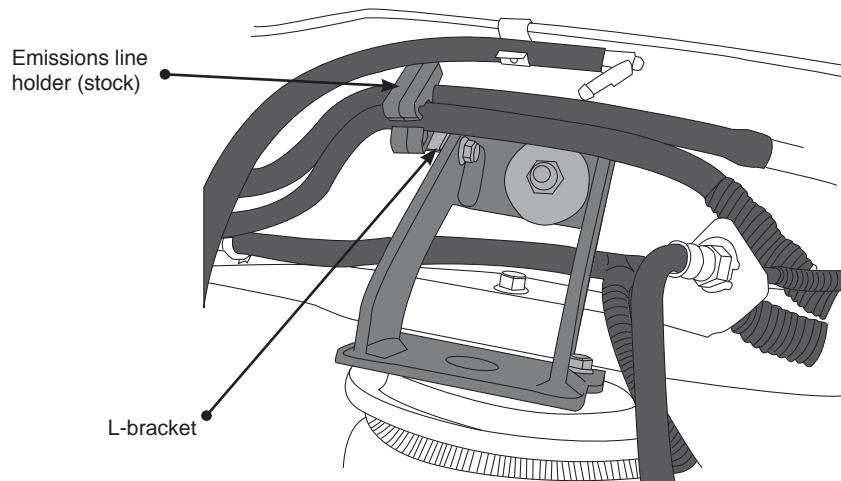

fig. 14
9. If so equipped with the emissions line previously loosened from the frame, insert the line holder post into the L-bracket (L) attached to the back leg of the upper left brace (D) (fig. 14). It may be necessary to move the line holder post forward or back on the lines to line up correctly with the L-bracket hole. Reattach any line holders removed forward or behind the axle, if possible, that were removed to aid in positioning the upper bracket.